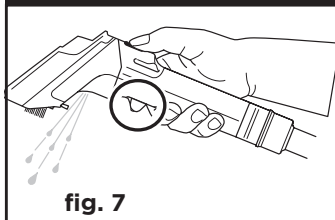

fig. 7
3. Spray the stained area (**fig. 7**).